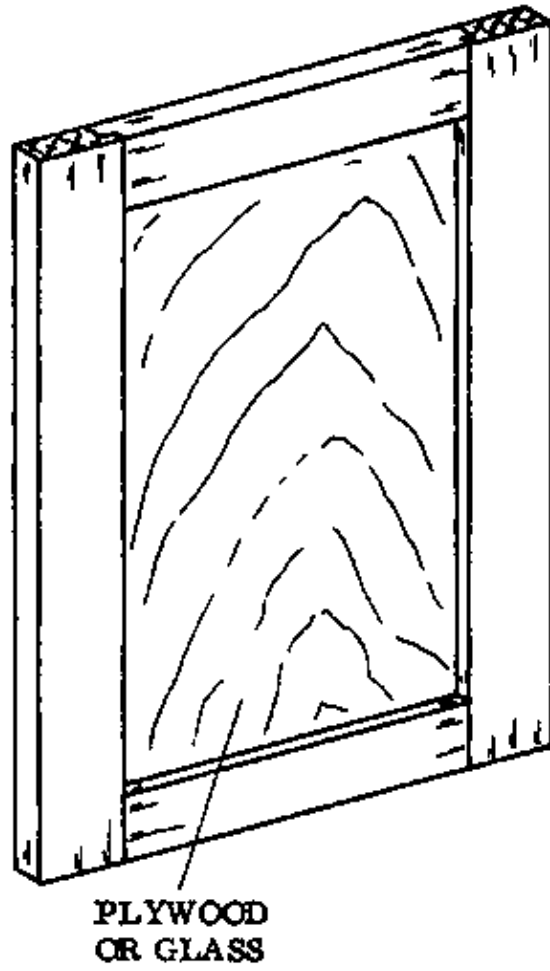

Fig. 3
– Panelled casements (Fig. 3)
- Glazed casements (Fig. 3)